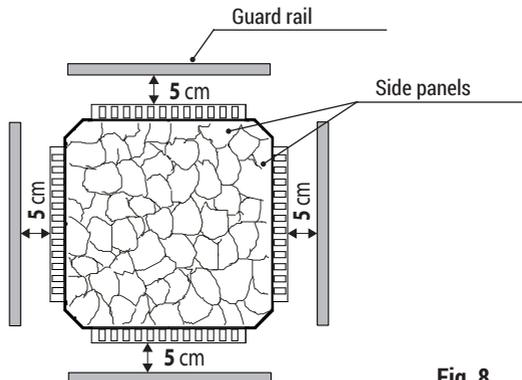

Fig. 8
Side panels are optional accessories (Item 30509-3S) and can be mounted if required on 1 - 4 sides. The side panels are not only a decoration element they will also significantly reduce the radiant heat. This allows the reduction of the side safety gap to 5 cm (Fig. 8).
- The safety gaps between the heater and the cabin wall, as well as the protective heater guard rail, the bench and other flammable materials change to 5 cm (see Fig. 8)